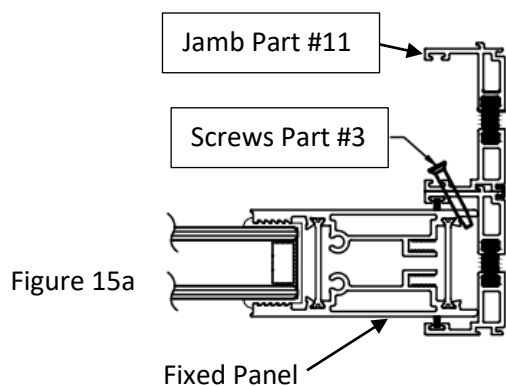

Figure 15a
19. Install the fixed panel into the exterior jamb track (Part #11). Secure fixed panel to the frame with the 2 screws (Part #3) provided in the hardware box (use sealant to lubricate screws). Screw through the pre-drilled holes in the center weather strip track of the jamb at 24" above the sill and 24" below the head as shown in figures 15a and 15b.